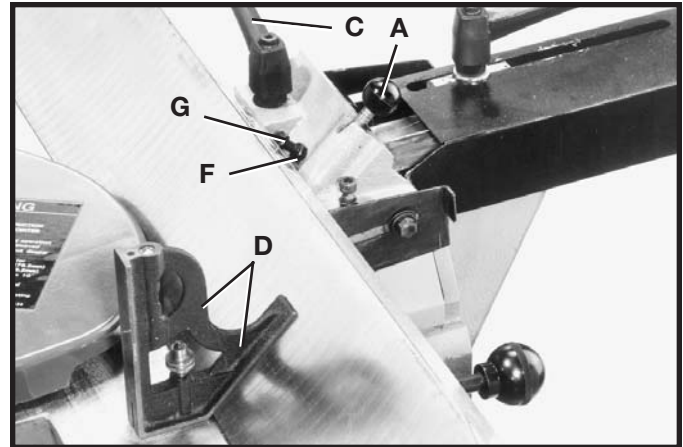

Fig. 52
5. Loosen lockhandle (C) Fig. 52, pull out and turn plunger (A) and tilt fence out as far as it will go. Then tighten lock handle (C).